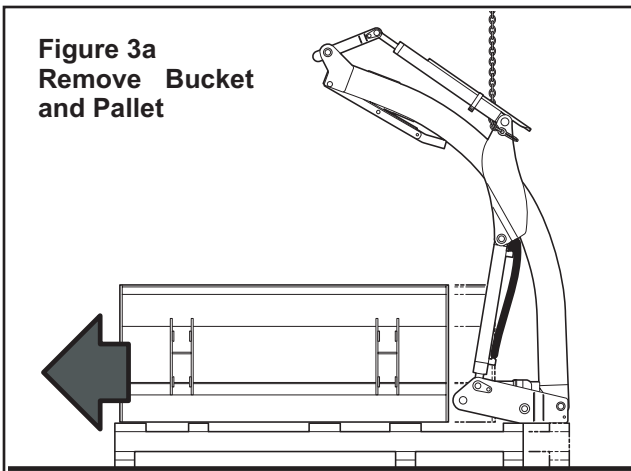

Figure 3a
3. Remove 3/8" lock nuts (E) and flat washers (D) which fasten loader uprights to pallet and can be found inside uprights near top end. Remove 3/8" lock nuts (E) which fasten shipping angle brackets (G) to pallet. Remove 5/16" lock nuts (H) from u-bolts (J) to remove shipping angle brackets (G) from loader. Discard shipping brackets and hardware. Raise loader off pallet and remove pallet with bucket (see Figure 3a).